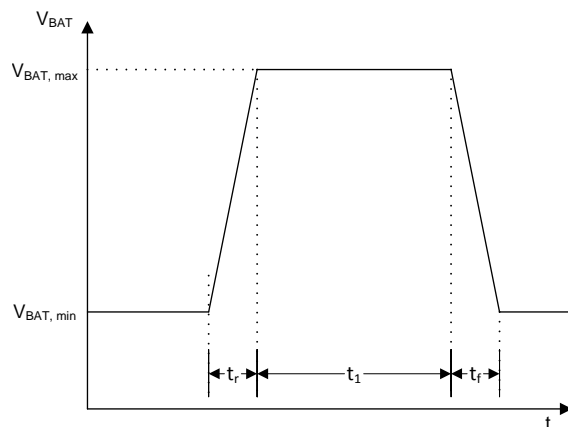

图 44. Voltage Profile to Test a Jump Start Event
- To emulate a jump start event, voltage profile described in 图 44 is used.